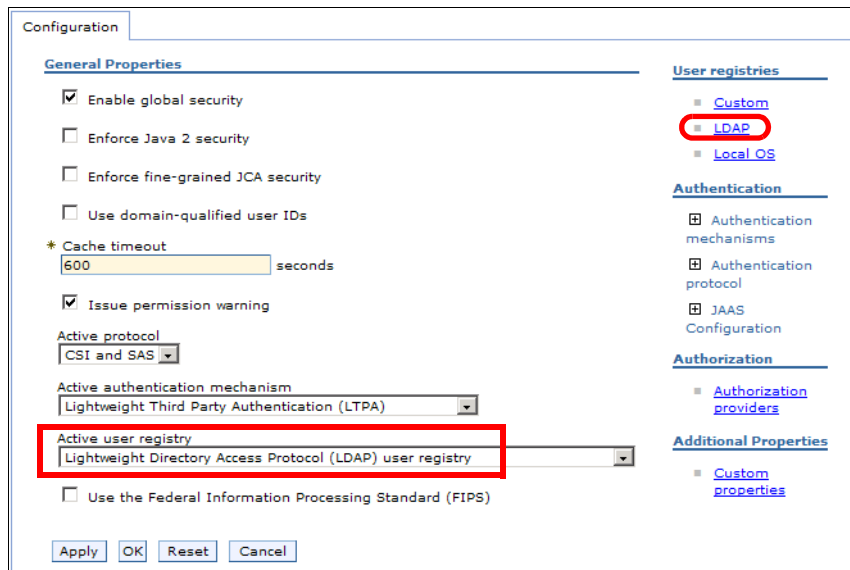

Figure 11-23 Global security using LDAP
- ▶ Back in Global security, select *Lightweight Directory Access Protocol (LDAP) user registry* and click *OK* (Figure 11-23).